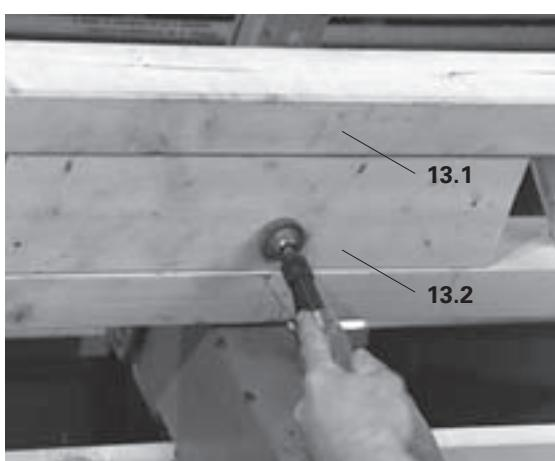

Fig. A1.10
1. Fix girder (13.1) by means of screw clamps. (Fig. A1.10).